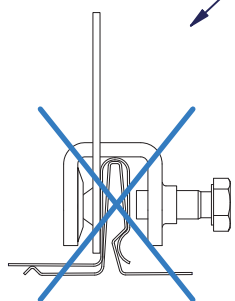
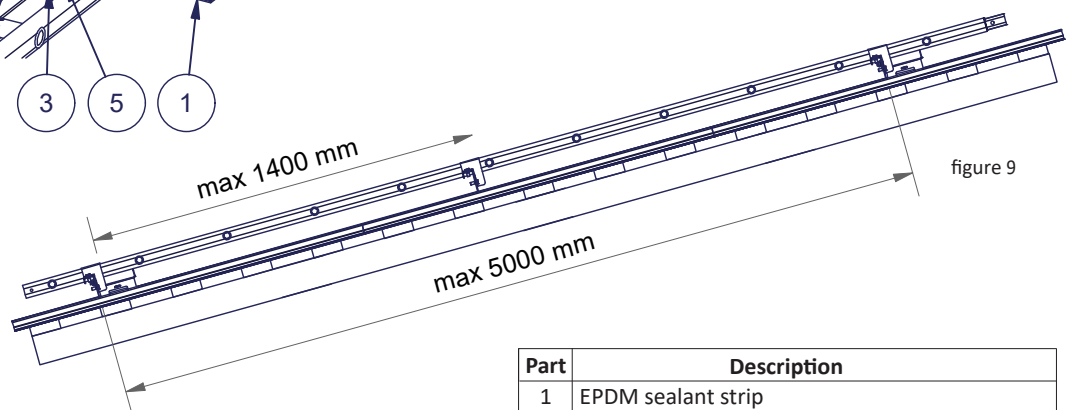
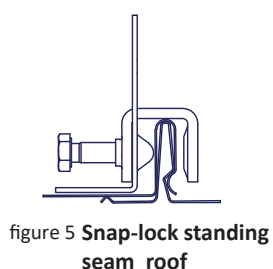

figure 8
figure 9
figure 5 Snap-lock standing seam roof
Maximum distance between seam roof brackets (4) is 5000 mm (figure 9). MultiFast fastener is installed on the seam of the roof using bracket for seam roofs (4) and SG tightening clamp (3). Slide the tightening clamp into the hole in the bracket. On snap-lock standing seam roof the bolt side of the tightening clamp is placed on the intact side of the seam (figure 5) and on mechanically seamed metal roof it is placed on the folded side of the seam. **NOTE! The bolt of tightening clamp must always be against the fastener, NOT against the seam (figure 8).**